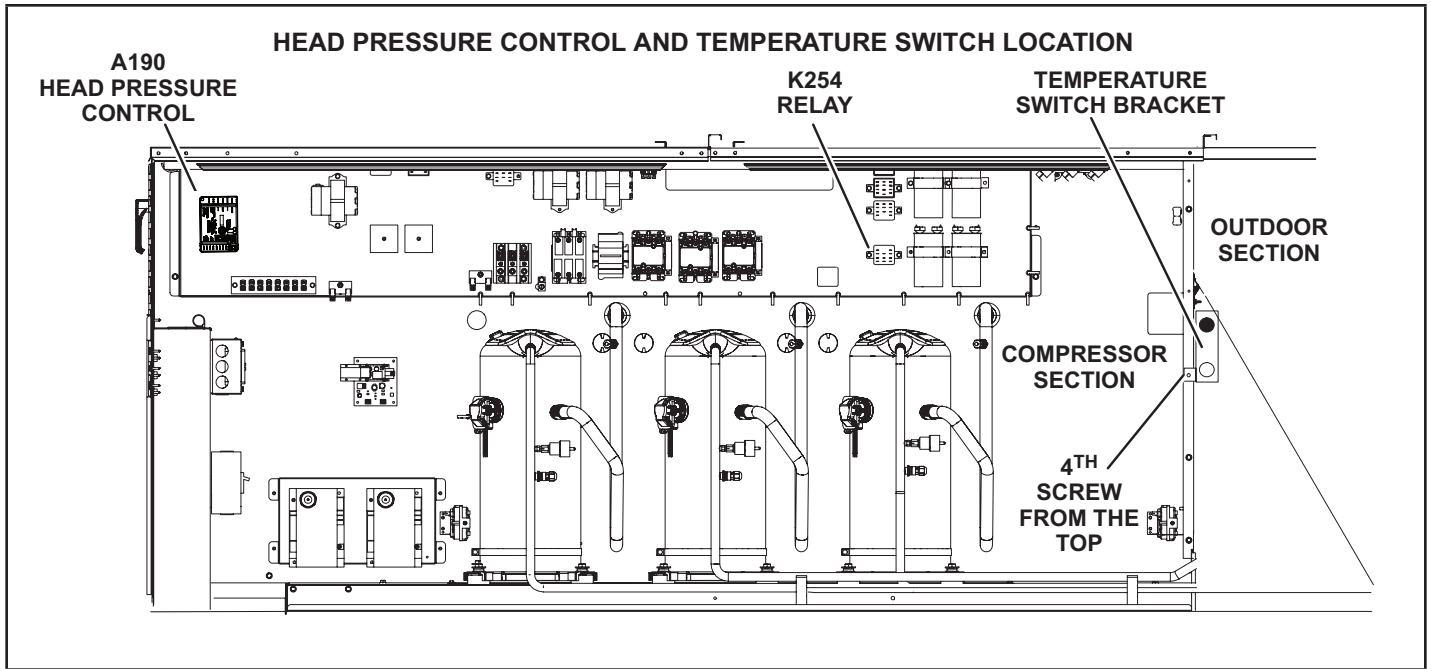

FIGURE 1
- 3 - Install the temperature switch mounting bracket onto the mullion. Align the bracket with the 4th screw from the top of the unit; secure with provided screw. See FIGURE 1.